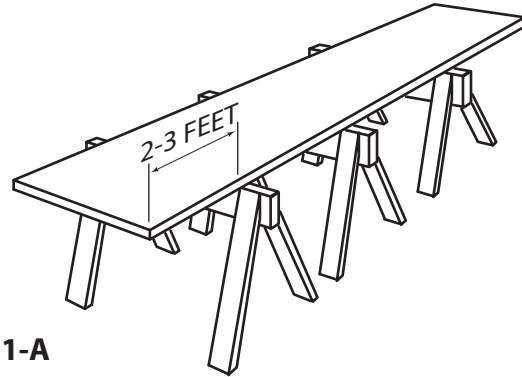

Fig 1-A
2. Set sawhorses or other working platform in place. Cover saw horses with carpet or cloth to avoid scratches on the door section. Allow one support for every 2-3 feet of section length, (FIG 1-A).